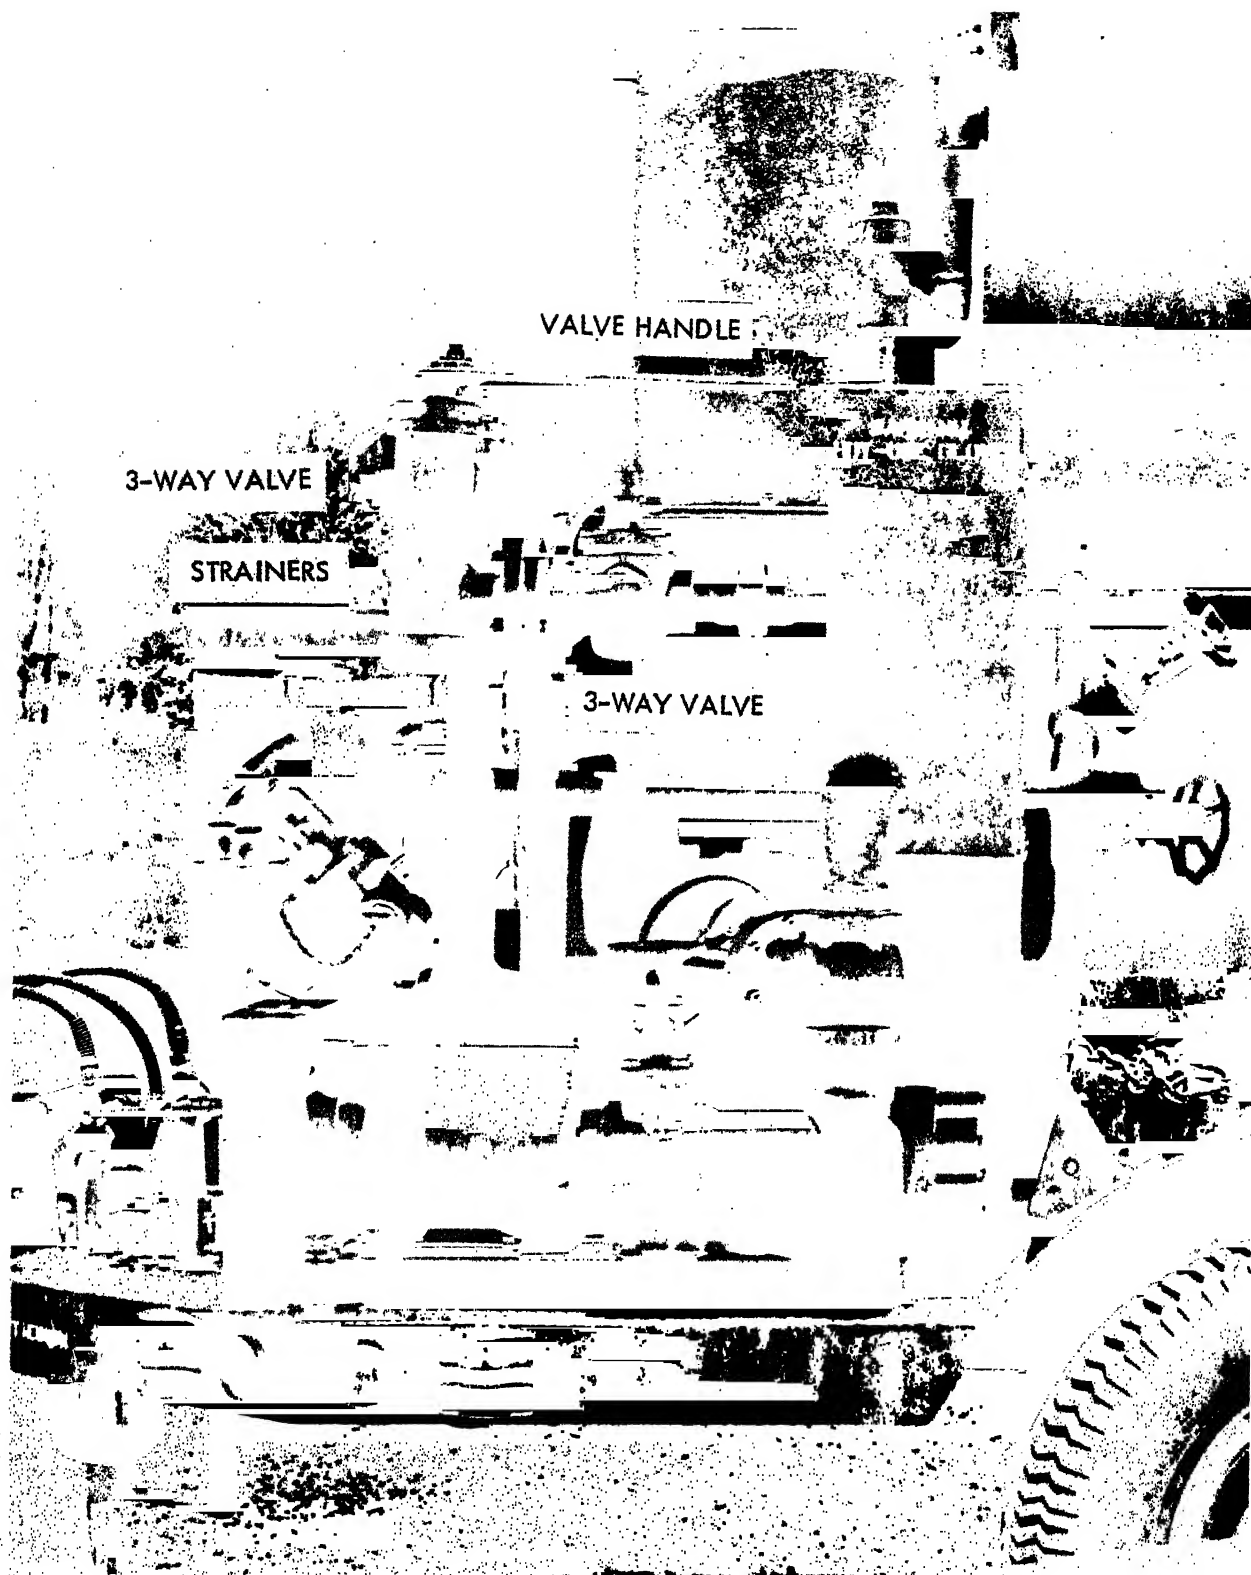

FIGURE 35. REMOVAL AND SERVICE OF HOT OIL STRAINERS AND THREE WAY VALVES
a. Removal. Refer to Fig. 35 and remove the hot fluid strainers.
c. Installation. Refer to Fig. 35 and install the hot fluid strainers.
2. Refer to Fig. 35 and remove the three-way valves, lines and fittings.
1. Refer to Fig. 35 and install the three-way valves, lines and fittings.